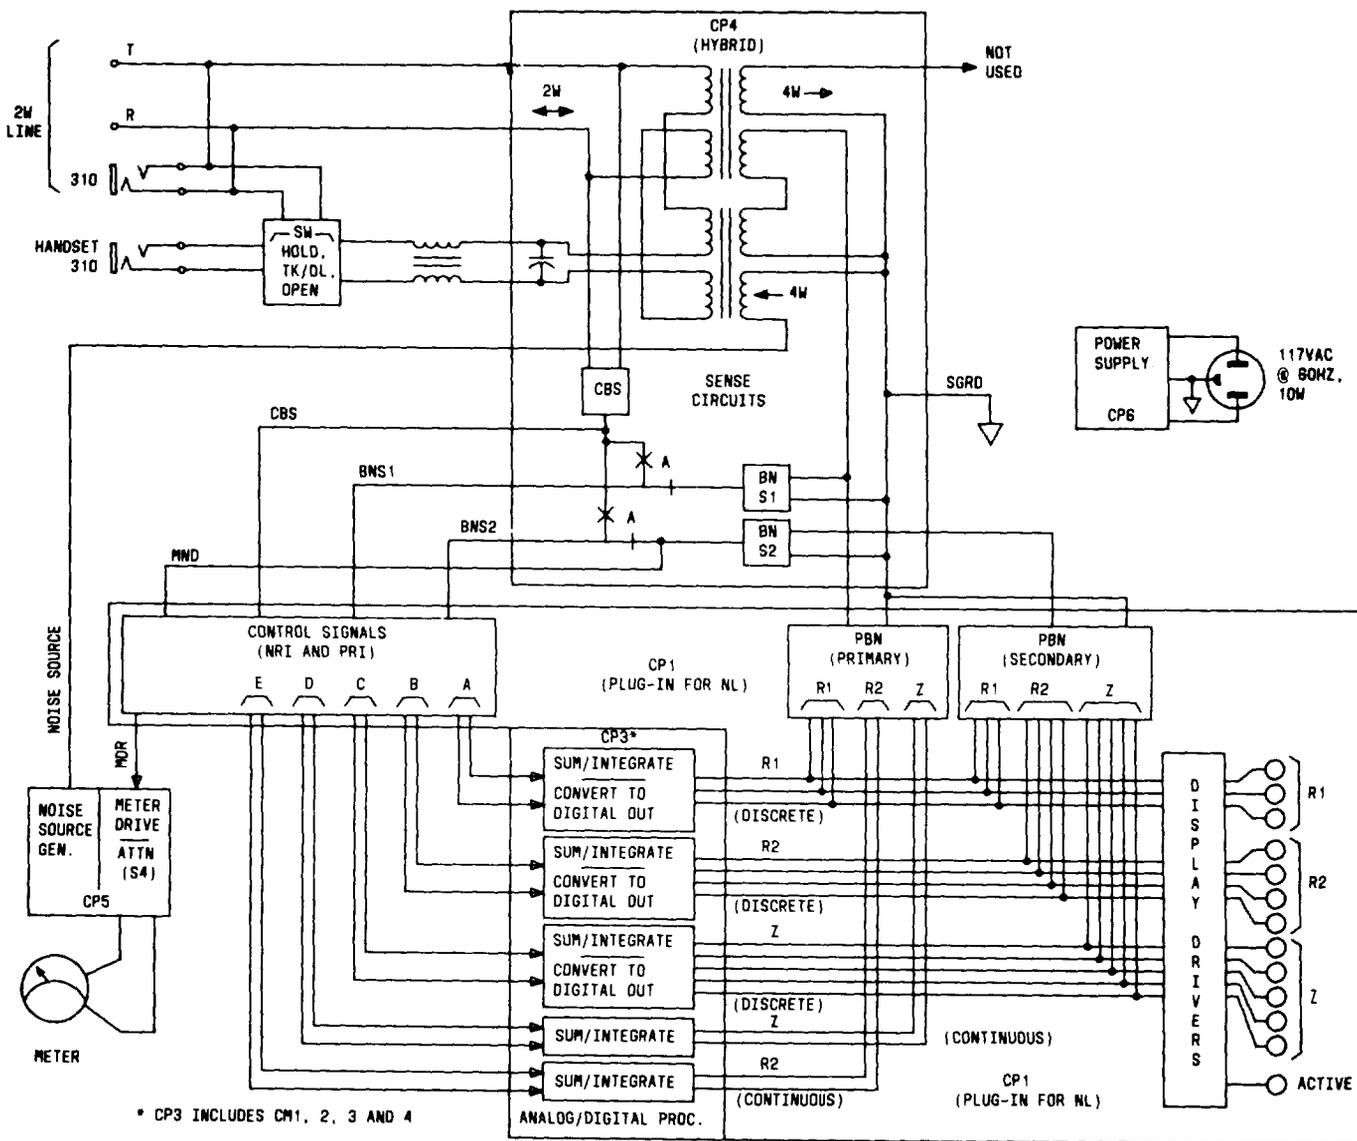
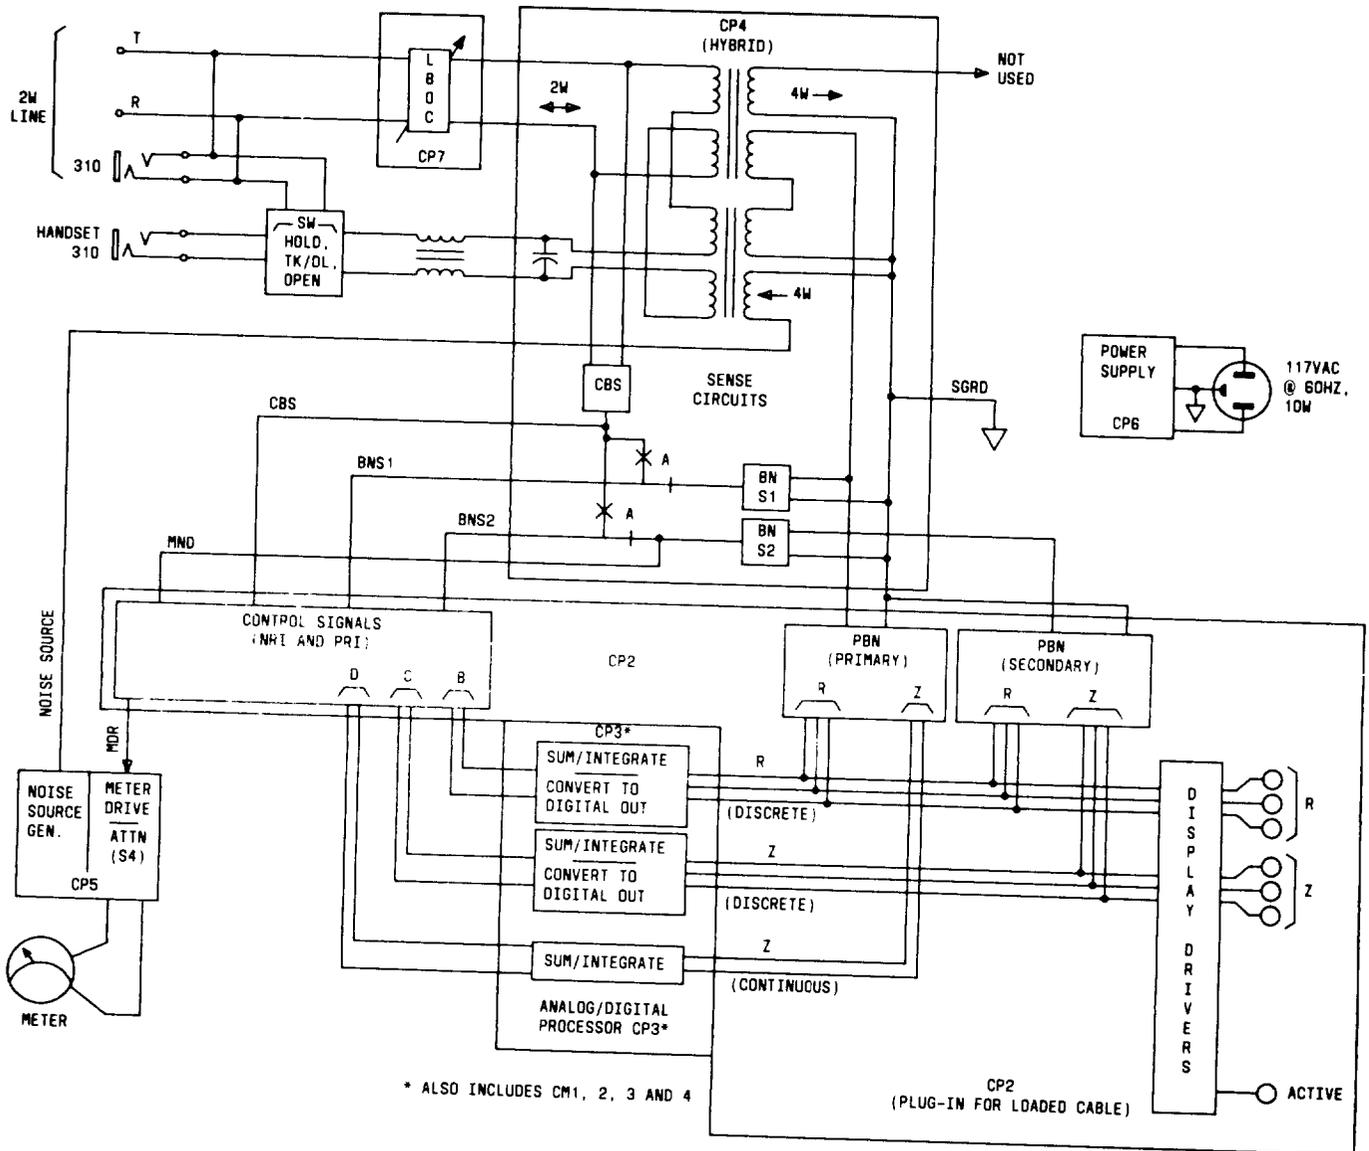

Fig. 2—Block Diagram of the Facility Matching Test Set Arranged for Nonloaded Cable
Fig. 3—Block Diagram of the Facility Matching Test Set Arranged for Loaded Cable
3.02 The test set works on the basis of a typical 4-port hybrid circuit. The 2-wire facility to be tested is connected to the 2-wire port, the noise source connects to one of the two 4-wire ports, and the PBN is across the 2-wire balance port. See Fig. 2 and 3 for block diagrams of the test set arranged for both nonloaded (Fig. 2) and loaded operations (Fig. 3).